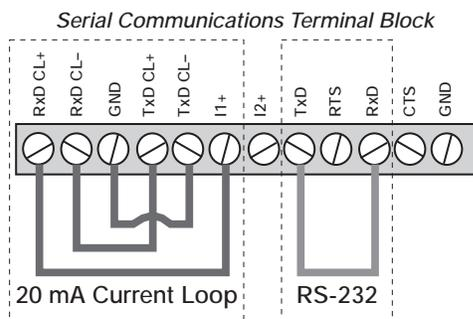

Figure 5-3. J-3: Terminal Block Connections for Loop-Back Self-Test
4. Connect jumpers to the terminal block as shown in Figure 5-3. Wire the terminal block only for the type of communications you are using (RS-232 or 20 mA), not both.